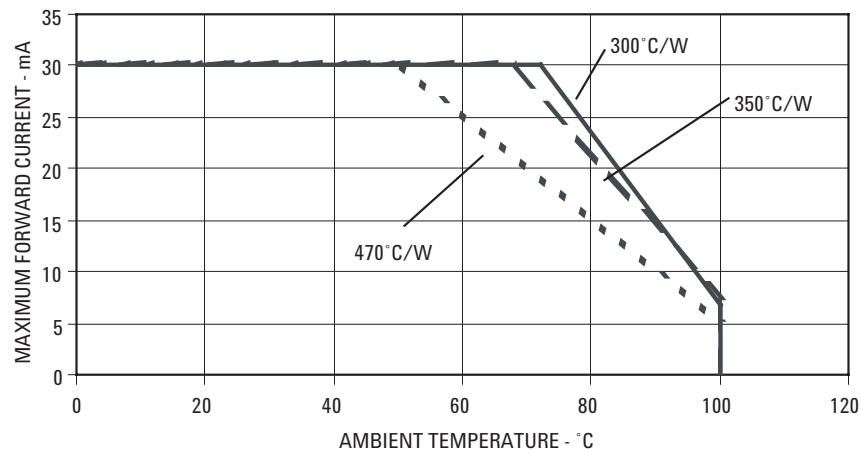

Figure 3. Maximum Forward Current Vs. Ambient Temperature. Derated Based on $T_{JMAX} = 110^{\circ}C$.
- Derate linearly as shown in Figure 3